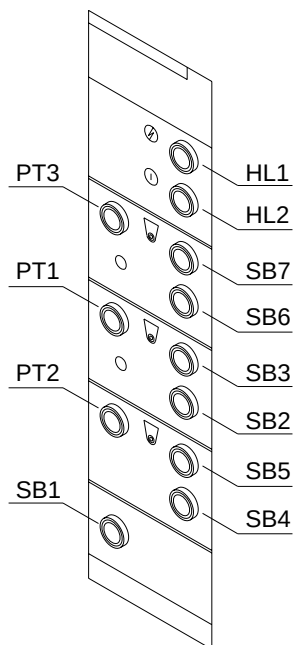

Fig.4.5
- a. Check that the emergency stop button is released (*SB1 Fig.4.5*).